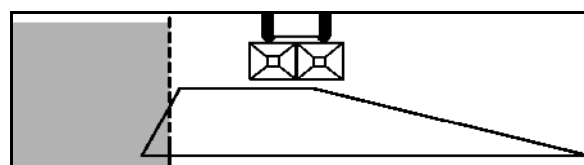

Fig. 72
2. Ditch spreading in accordance with fertiliser ordinance (Fig. 72):